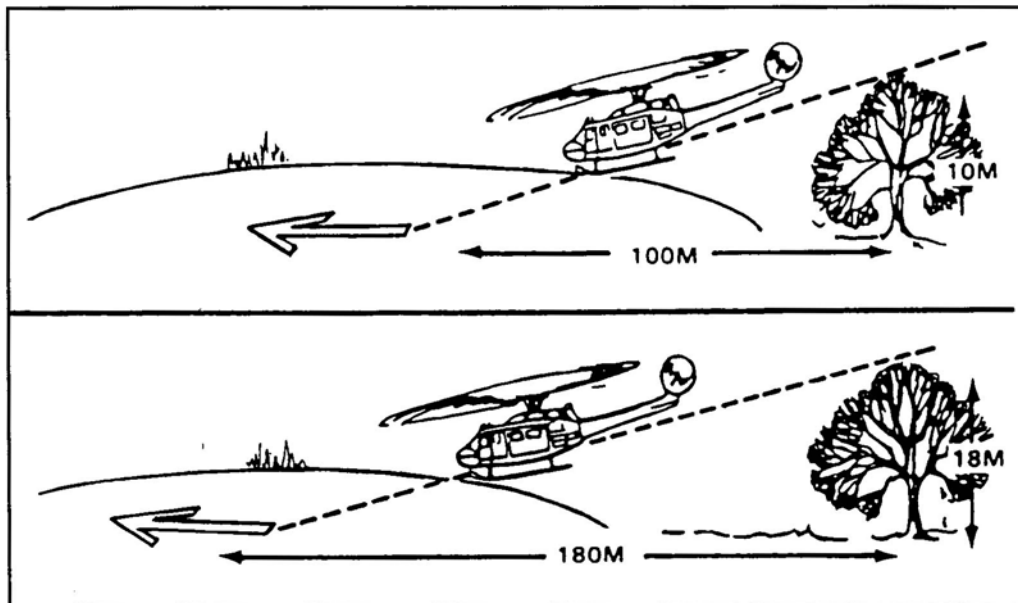

Figure 1. Landing site distance from obstacles.
- (1) A helicopter requires a relatively level landing area 30 meters in diameter. This does not mean that a loaded helicopter can land and take off from an area of that size. Most helicopters cannot go straight up or down when fully loaded. Therefore, a larger landing site and better approach and departure routes are required.
- (2) When obstacles are in the approach or departure routes, a 10 to 1 ratio must be used to lay out the landing site (Figure 1). For example, during the approach and departure, if the helicopter must fly over trees that are 15 meters high, the landing site must be at least 150 meters long ($10 \times 15 = 150$ meters).